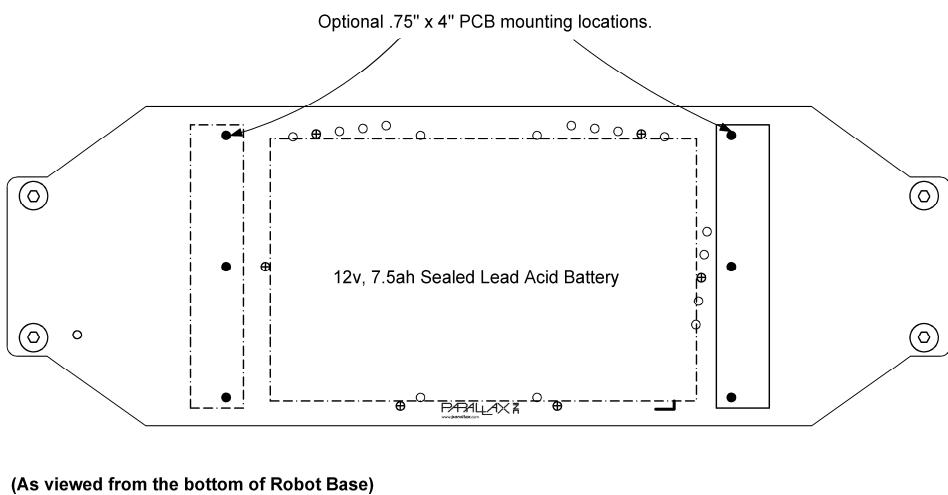
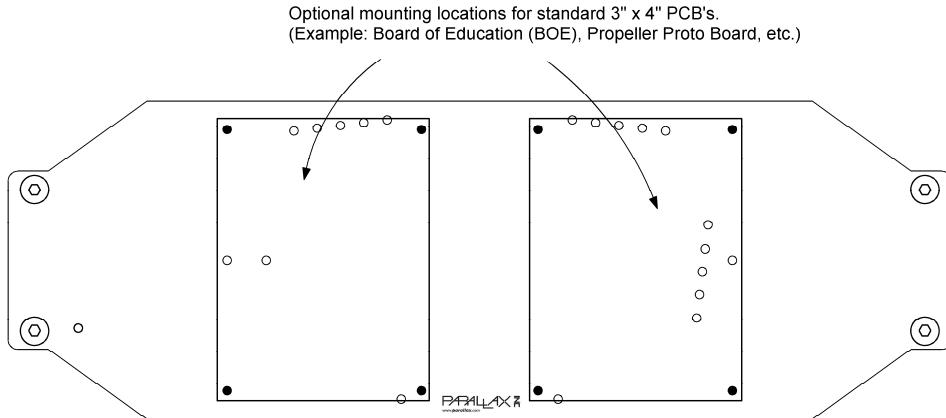

Figure 2
Figure 3
Step 5: The additional holes in the Battery Shelf can be used at your discretion, or as mounting locations for additional computer/control boards, or future hardware enhancements. See Figure 2 and Figure 3.